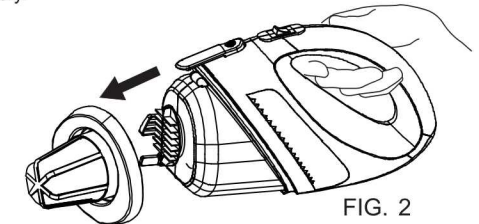

FIG. 2
5. Empty the cup and brush off the filter. The filter may be removed, (Fig. 2) and washed in water. Replace dust filter only after it is completely dry. Replace dust cup.